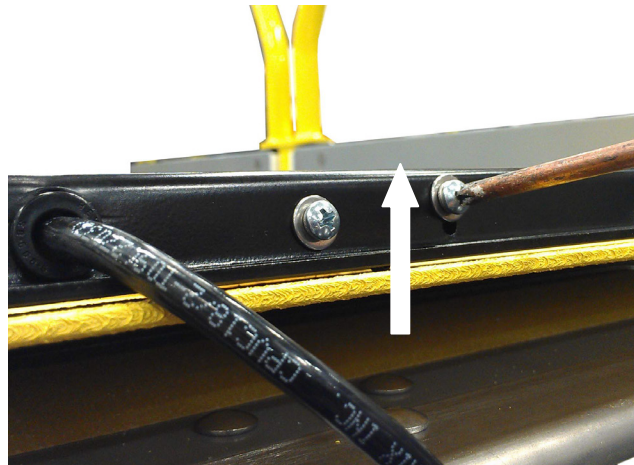

FIGURE 2-13. BRIDGEPLATE SWITCH RESET
- 5) Refer to **Figure 2-13**. Make adjustment by loosening the adjustable screw by shifting screw to top of slot then tighten the adjustable screw to secure position. This will reset the position of the bridgeplate switch so that it is not activated.
- 6) Refer to **Figure 2-13**. Slightly tighten screw then shift screw slowly, downward for adjustment.